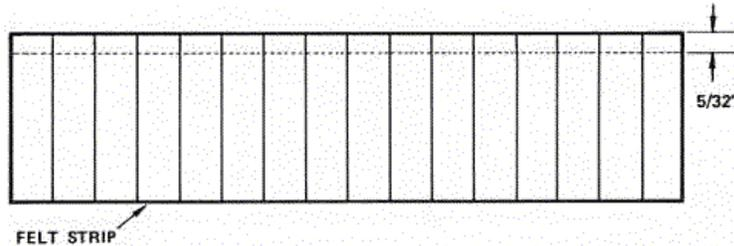

Figure 6-3. Felt Strip - Cutting Line Dimension
9. Measure  $5/32"$  (3.969mm) in from one edge of the Felt Strip (Figure 6-3) and slice along the strip of Felts with a sharp knife ensuring that both pieces retain the protective paper backing. Lay aside the  $1-13/32"$  (35.719mm) Felt Strips.